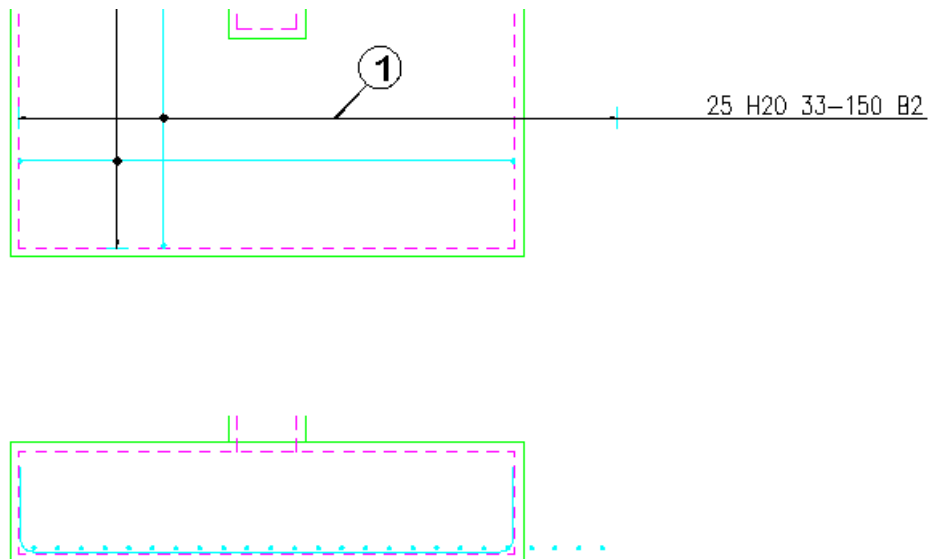

Figure 7.3.9:1 Using *Edit Range* to edit the range length
4. Make the Viewport on *Range Edit Single Indicator (03)* current
9. Select **CADS RC** → **Editing** → **Edit Range** or  or double click on the Range Line as indicated by point 1 on figure 7.3.9:1 below